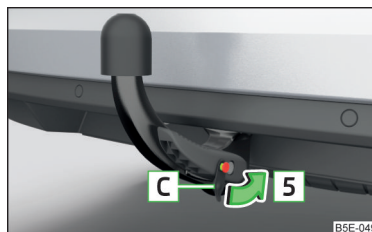

Fig. 302
- Fit and press cap **C** onto the lock in the direction of arrow **5** » Fig. 302.